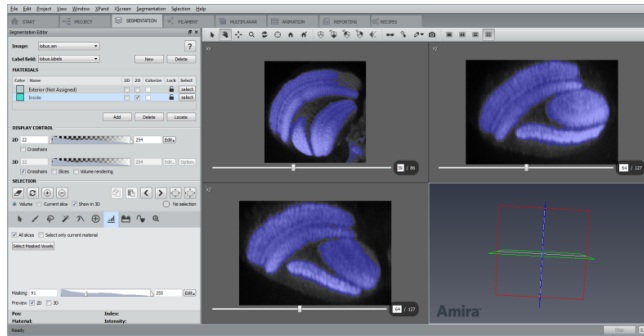

Figure 3.35: Segmented Confocal Microscopy Data
1. In the XY view, use the slider on the bottom to select slice 39 (see Figure 3.35).